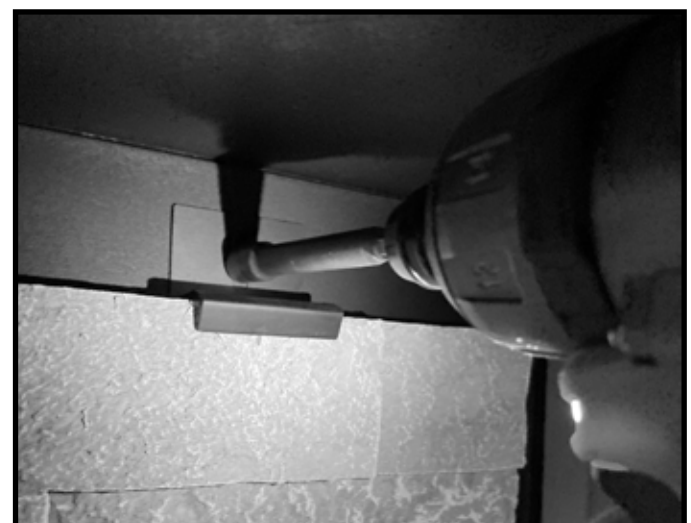

Figure 19 Install Bracket
7. Install refractory bracket using the self-tapping screw provided. See Figure 19.